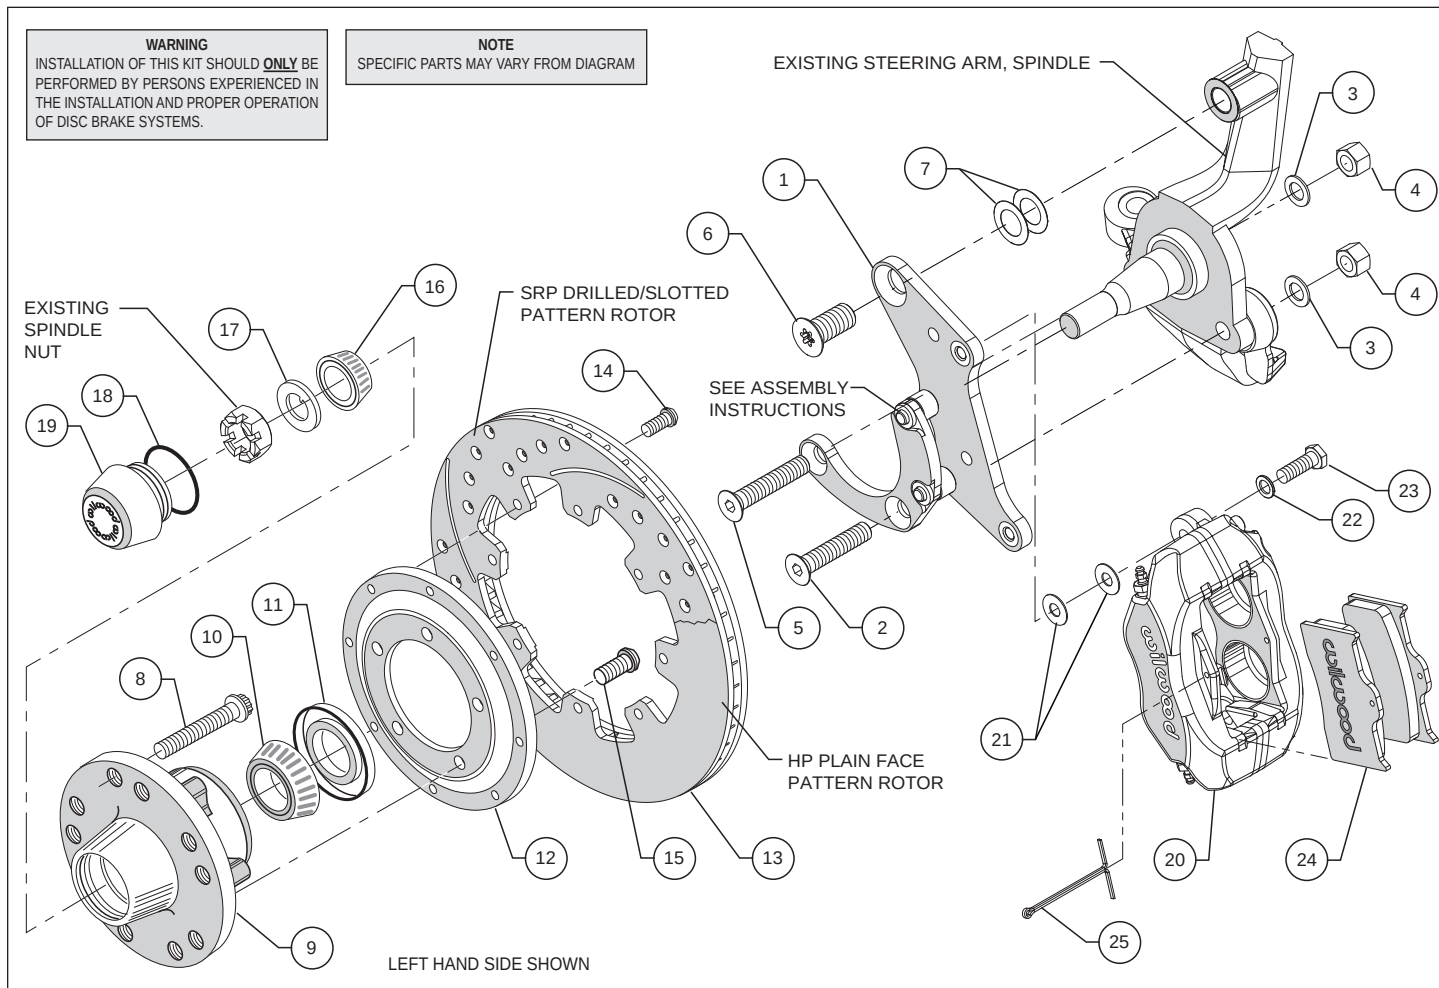
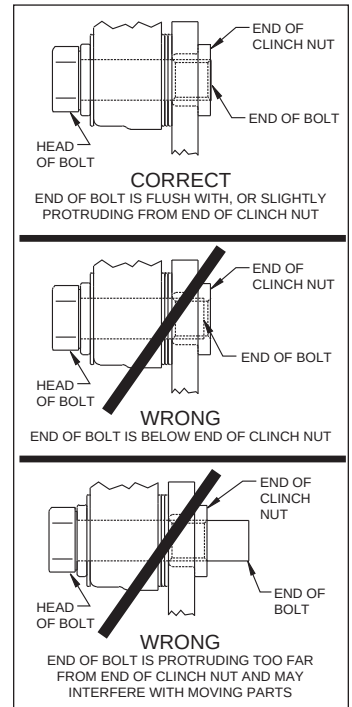

Figure 1. Typical Installation Configuration
Figure 3. Clinch Nut Engagement Diagram
Assembly Instructions (numbers in parenthesis refer to the parts list and Figure 1 on the preceding pages): **CAUTION:** All mounting bolts must fully engage clinch nuts. Be sure to check that all bolts are either flush or protruding through flanged side of clinch nut after shimming, Figure 3.
•The caliper mounting bracket (1) has been assembled at the factory for alignment purposes. Loosen the two bolts that secure the brackets together so that the bolts are hand tight only, this will enable the bracket assembly to be adjusted to accommodate various spindle tolerances during assembly. Align bracket with the two lower holes on the spindle face and attach using bolts (2 and 5), washers (3), and secure using nuts (4), as shown in Figure 1 and Photo 1. Install bolt (6) through top of bracket while placing shims (7) between bracket and spindle, Figure 1. Initially place two .010" thick shims (7) on the top bolt between the bracket and upright, Figure 1. Temporarily tighten the mounting bolts. Ensure that the flanged heads of the clinch nuts in the bracket are facing outboard, Photo 1. **NOTE:** The bracket must fit squarely against the mounting points on the spindle and be parallel with the mounting face. If not, add or subtract shims (7) on the top bolt between the bracket and spindle. Inspect for interference from casting irregularities, machining ridges, burrs, etc. Remove lower bolts one at a time, apply red *Loctite*® 271 to the threads, and torque nuts to 77 ft-lb. Remove the upper bolt, apply red *Loctite*® 271 to threads, and torque to 140 ft-lb. Remove one at a time the bolts that secure the bracket assembly to each other, apply red *Loctite*® 271 to the threads and torque to 40 ft-lb.
- Orient the rotor (13) and the rotor adapter (12) as shown in Figure 1 and Photo 4. Attach the rotor to the adapter using bolts (14). Using an alternating sequence, apply red *Loctite*® 271 to the threads, and torque to 25 ft-lb.
- Mount the adapter/rotor assembly (12/13) to the hub (9) using bolts (15), as shown in Figure 1 and Photo 5. Using an alternating sequence, apply red *Loctite*® 271 to the threads, and torque to 55 ft-lb.
- Pack the small outer bearing cone (16) with high temperature disc brake bearing grease and install into hub (9). Slide the hub/rotor assembly onto the spindle. Secure using spindle washer (17) and OEM spindle nut, Photo 6. Adjust bearings per OEM specifications. Install saved OEM nut lock (if any) and a new cotter pin (not supplied).
- Screw dust cap (19) into hub (9), Photo 7. Friction created by the o-ring (18) on the dust cap keeps it from unscrewing. **NOTE:** The O.D. of the existing OEM spindle washer may be larger than the I.D. of the dust cap not allowing it to seat against the hub face. Therefore, use the spindle washer (17) supplied with the kit instead of the OEM washer.
- NOTE:** Please reference the caution statement at the beginning of the assembly instructions. Mount the caliper (20) onto the caliper mounting bracket (1) using bolts (23) and washers (22), as shown in Figure 1. Initially place two .035" thick shims (21) on each bolt between the caliper and the bracket, Photo 8. Temporarily tighten the mounting bolts and view the rotor (13) through the top opening of the caliper. The rotor should be centered in the caliper, Photo 9. If not, adjust by adding or subtracting shims between the bracket and the caliper. Always use the same amount of shims on each of the two mounting bolts. **NOTE:** The end of each bolt must be flush with or slightly protruding from the head of the clinch nut, as shown in Figure 3. If necessary place spare shims between washer (22) and caliper mounting ear to achieve the proper clinch nut engagement. Once the caliper alignment and clinch nut engagement are correct, remove the bolts one at a time, apply red *Loctite*® 271 to bolt threads, and torque to 40 ft-lb.